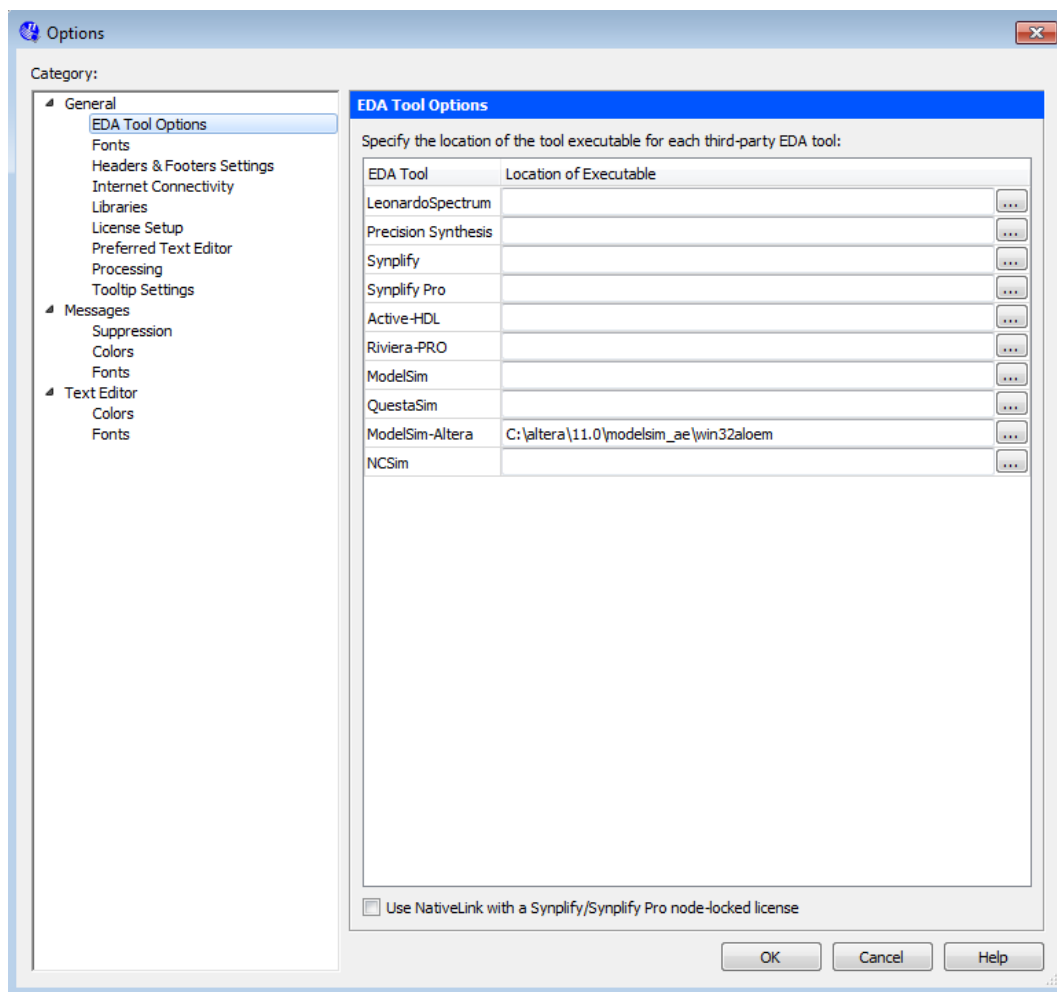

Figure 1
- c. For ModelSim-Altera, give the path to ModelSim-Altera Edition installation directory as shown in Figure 1.